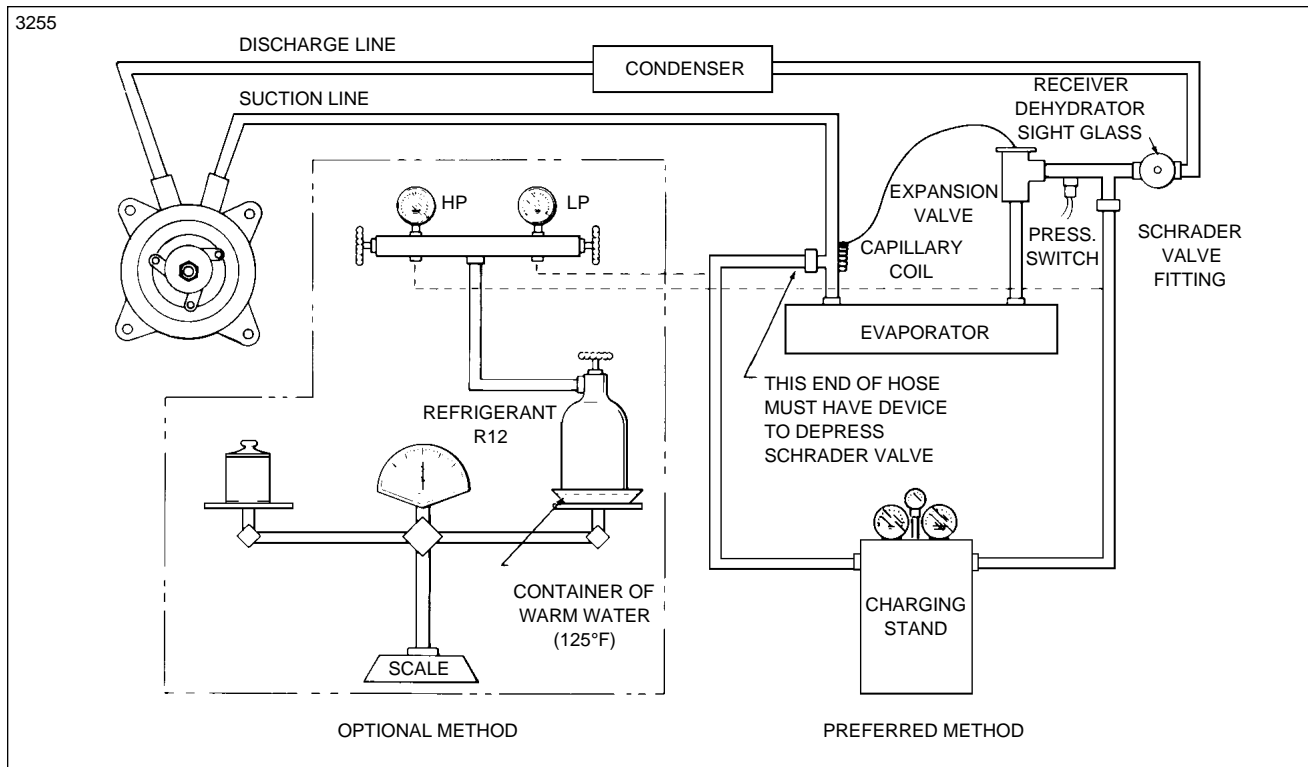

Figure 21-27. Charging Hookup
1. With the system discharged and evacuated, proceed to hook-up the charging stand. (Refer to Figure 21-27.)
1. With the system evacuated as outlined in the paragraph "Evacuating the System," connect the refrigerant charging hose to the manifold (refer to Figure 21-27) and purge the charging hose of air.
2. Connect a charging hose to a refrigerant cylinder and also to the Schrader valve fitting on the suction line. (Refer to Figure 21-27.)